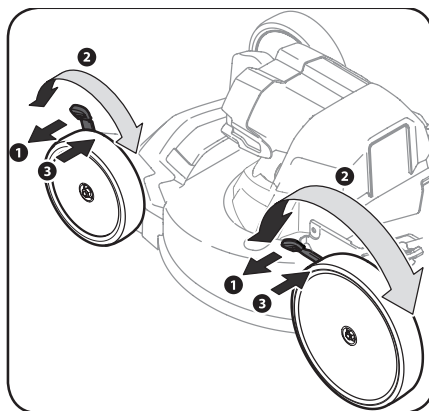

Figure 2-9
2. Move lever to desired position for a change in cutting height. See Figure 2-9.